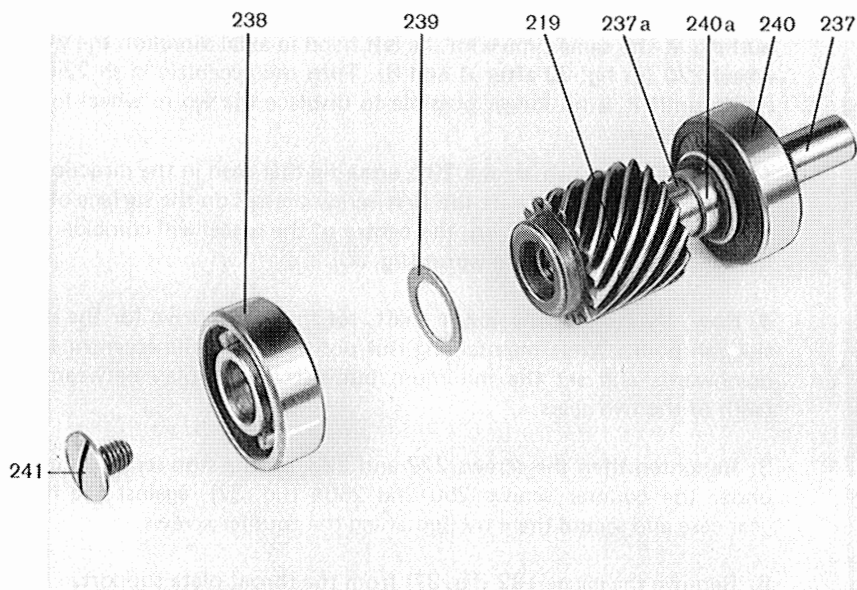

Fig. 38
9. Turn out the screw 241 (lefthand thread), remove ball bearing 238, disk 239 and worm 219 and change the latter against a new one. Replace the removed parts in reverse sequence. (See fig. 38.)